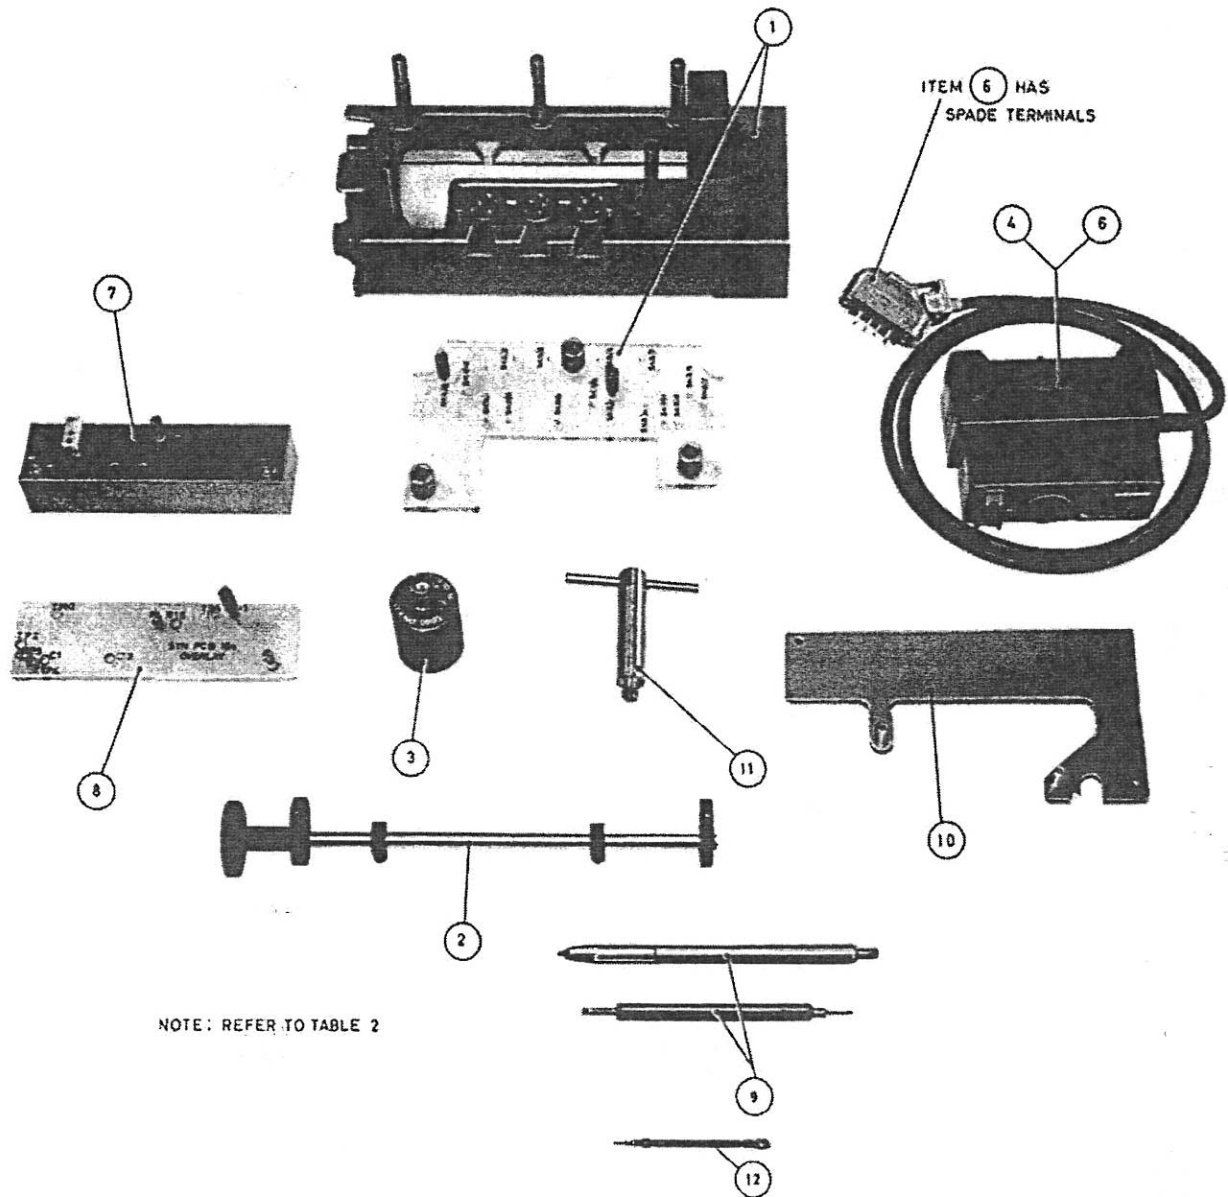

Fig 1 – RT349 field repair test kit
Item 4 NSN changed & Item 5 deleted in Table 2; ref. 5 deleted in Fig 1; para 20 amended
15. When carrying out alignment, fault diagnosis or repairs, the RT349 motherboard, with all assemblies fitted, can be removed from the box assembly (para 36) and inserted into the test jig (item 1, Table 2); refer to para 33 for fitting instructions.
16. Table 2 gives a list of the items contained within the field repair test kit (Fig 1).
38. Assemblies 4 to 9 have extraction key-hole slots in the screening covers; spigots on the extractor tool (item 2, Table 2) engage with these slots in order to withdraw the assemblies. The adjustable cam on the extractor tool is set to one of two positions as follows:
- b. Place the extractor tool above the assembly to be withdrawn and such that each cam is in contact (Fig 1) with the machined face on the box or the motherboard assembly test jig (item 1, Table 2).